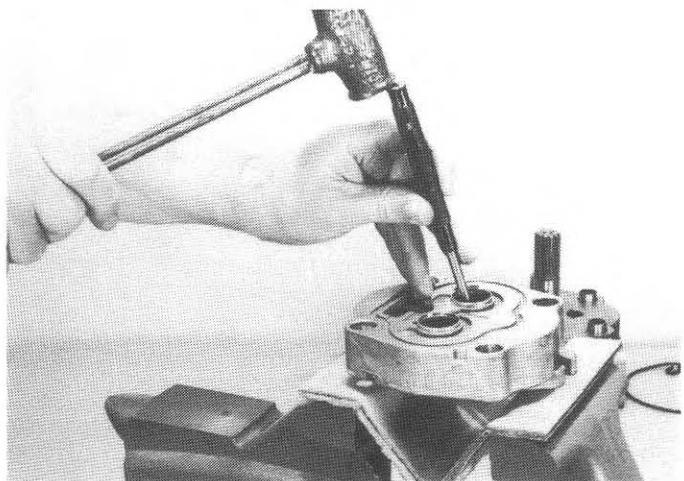

Fig. 4
7. Slide a punch of appropriate size through the bearing and against the seals metal casing. Hold the punch away from the bearings and drive the seal out without damaging seal bore or bearing. Move the punch around the seal as it is driven out. Do not allow the punch to rest against the seal bore or bearing while driving the seal out. (Fig. 4)